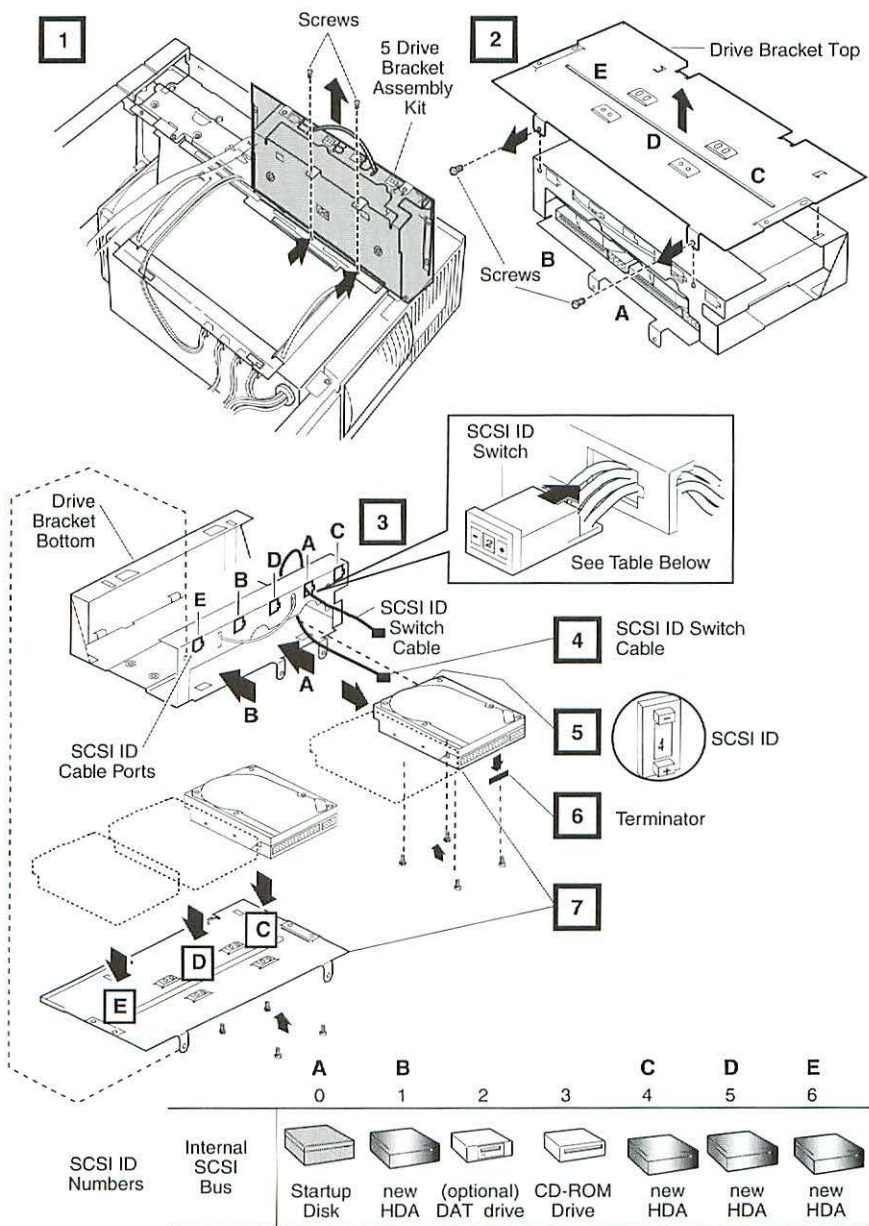

Figure 4a Hard Drive Upgrade
1. Remove the cover and two screws that secure the 5-drive bracket to the drive shelf assembly (Figure 4a-1).
2. Remove the two screws that secure the top of the 5-drive carrier to the bottom piece. Remove the drive bracket top (Figure 4a-2).
3. There are five openings in the bottom panel of the drive bracket for the SCSI ID switches. The openings are labeled A-E. To install the SCSI ID switch for the first drive, feed the connector end of the SCSI ID cable through the opening labeled A on the drive bracket. Push in the SCSI ID switch until it clicks into place. Repeat this procedure to install the remaining SCSI ID switches (Figure 4a-3).
4. Connect the free end of the first SCSI ID switch cable to the first hard drive, which you will be installing in drive slot A (Figure 4a-4).
5. Set the SCSI ID numbers. Make sure no two peripherals, including the DAT player, use the same SCSI ID number. Also, do not set any of the SCSI ID switches to 7. The hard drives must be installed in the five-drive bracket in the order shown. If you install fewer than five drives, you must still install the drives in the order shown (Figure 4a-5).
6. Remove the terminating resistors from the drives (Figure 4a-6).
7. Install the first hard drive in slot A (the lower-right slot) of the drive bracket. Insert the four screws that secure the hard drive to the drive bracket. Tighten the screws. Follow this procedure to install up to four additional hard drives in the order shown (Figure 4a-7).